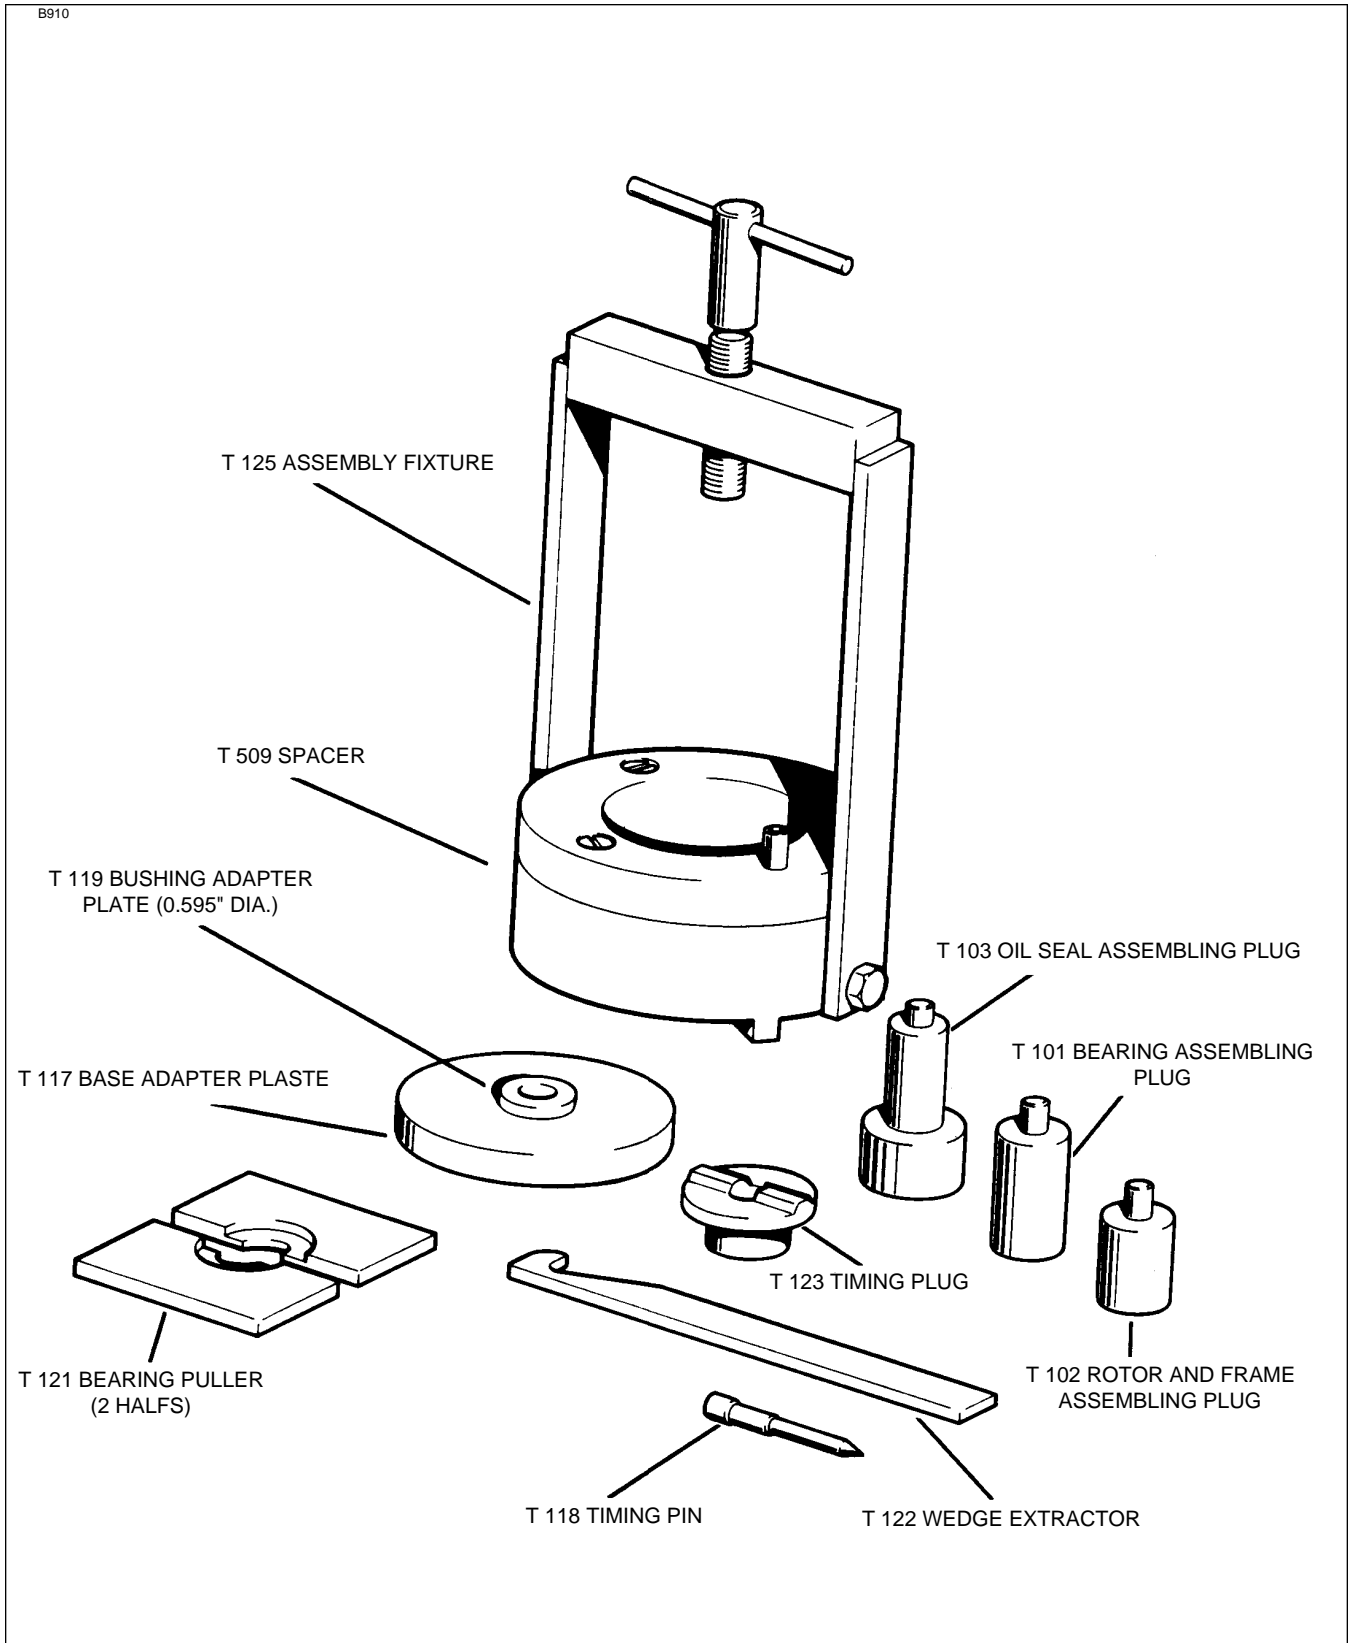

Figure 8-7 T-1000 Assembly and Timing Tool Kit
Although not required, use of the slick T-100 assembly and timing kit is strongly recommended. (Refer to Figure 8-7.) The tools contained in this kit will greatly facilitate magneto disassembly / assembly and help prevent damage to parts.
- a. Insert the T-118 timing pin (refer to Figure 8-7) in the L or R hole in the distributor block (depending on rotation of the magneto).
b. Insert the T-118 timing pin (refer to Figure 8-7) in L or R hole in the distributor block. Turn rotor opposite the rotation of magneto until the pin engages the gear and install magneto and gasket on the mounting pad of the accessory housing and remove the timing pin. Tighten the bolts finger tight.